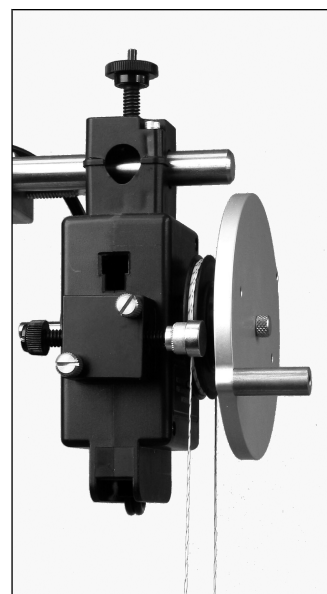

Figure 5. Magnetic Drag Accessory
7. Attach the magnetic drag accessory to the side of the Rotary Motion Sensor as shown in Figure 5.